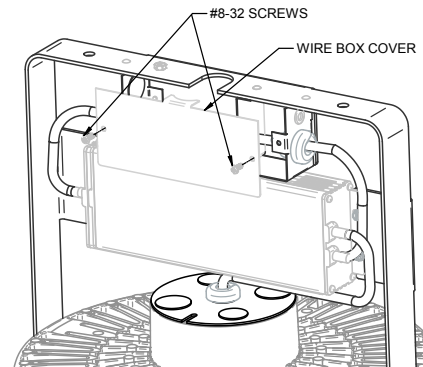

Figure 5
1. Remove wire box cover by removing (2) 8-32 screws. (Figure 5)
INSTALLING HOOK MOUNT (See Figures 5 & 6):
2. Insert end of Cord through Hook (A). Supply Cord is to be rated for a minimum of 90OC 16/3 SOW-A.